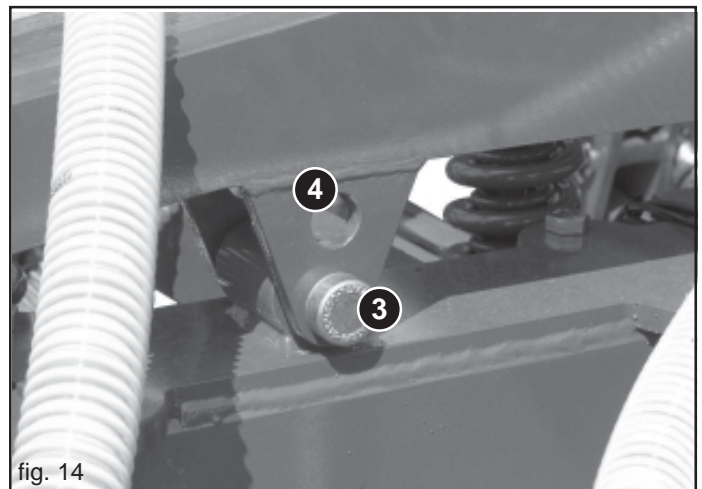

fig. 14
- Block in place using the pins (3, Fig. 14)
- Unhook the bolts (3) and put them in their seat (4) as shown in Figure 14;